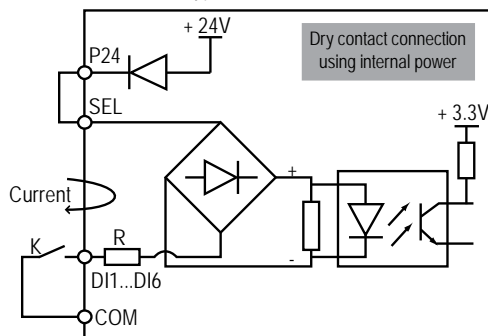

Figure 4-7 Dry contact connection when using internal 24V power
1. If the internal 24V power supply is used, the connection is as shown in Figure 4-7. (The SEL and the P24 are short-circuited at factory)